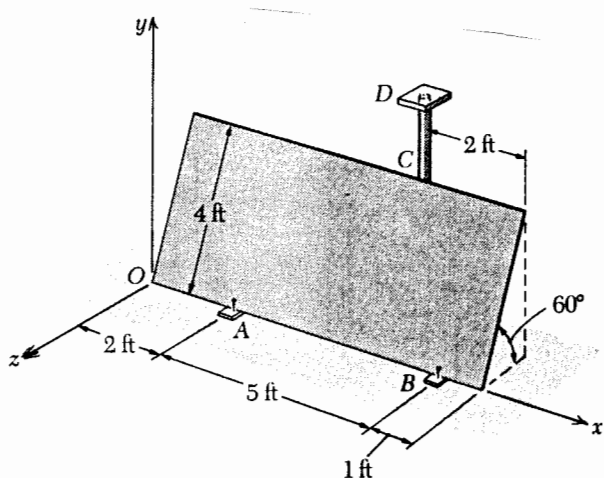

Fig. P1
- 1) A 4×8 ft sheet of plywood weighing 50 lb has been temporarily propped against column CD, as shown in Fig. P1. It rests at A and B on small wooden blocks and against protruding nails. Neglecting friction at all surfaces of contact, determine the reactions at A, B, and C. [Secs. 5.5-5.7] (20 pts.)